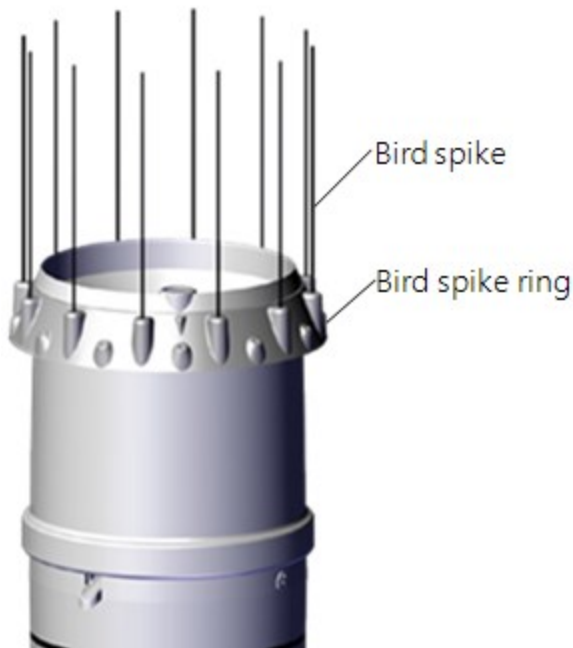

Figure 7-6. Bird-spike kit mounted properly
- Position the ring on top of the ClimaVue 50 G2 with the pyranometer aligned with the triangle between two spikes (Figure 7-6 [p. 18]); this will limit spike shadows on the sensor.
7. Press finished bird deterrent onto the ClimaVue 50 G2 funnel to at least the depth shown in Figure 7-6 (p. 18).